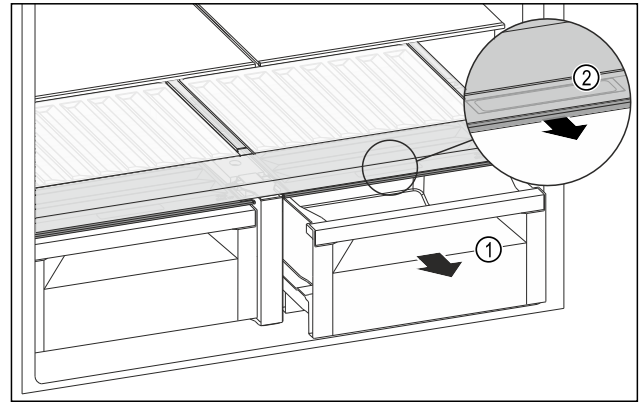

Fig. 128
- ▶ Pull out the drawer *Fig. 128 (1)*.
- ▶ Grip the handle recess *Fig. 128 (2)* on the lid while pulling the lid forward at the same time.